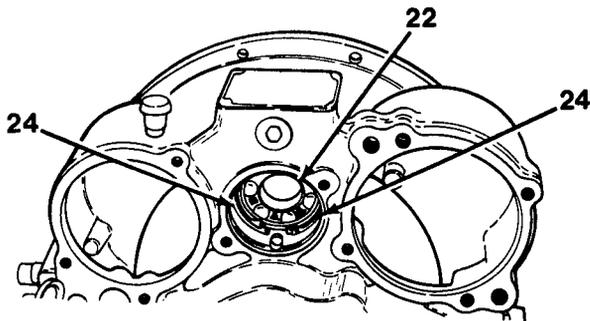

Figure 11-7
36. Install inside bearing (22) and two snap rings (24, Figure 11-7).